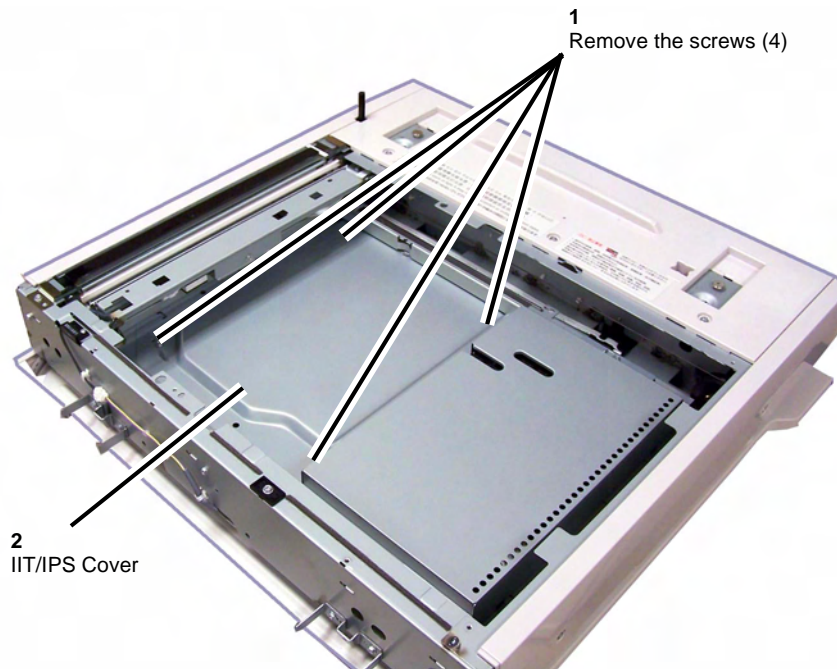

Figure 2 Removing the IPS Cover
3. Remove the IIT/IPS Cover (Figure 2).